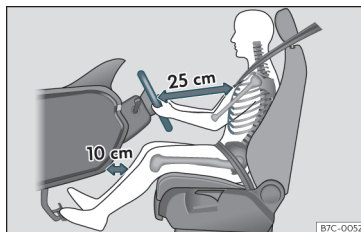

Fig. 70 The proper distance between driver and steering wheel.
- Adjust the steering wheel so that there is a distance of at least 25 cm between the steering wheel and the centre of your chest >>> **Fig. 70**.
- Adjust the driver's seat so that there is at least 25 cm distance between the centre of the chest and the centre of the steering wheel »» Fig. 70. If you are sitting closer than 25 cm, the airbag system cannot protect you properly.